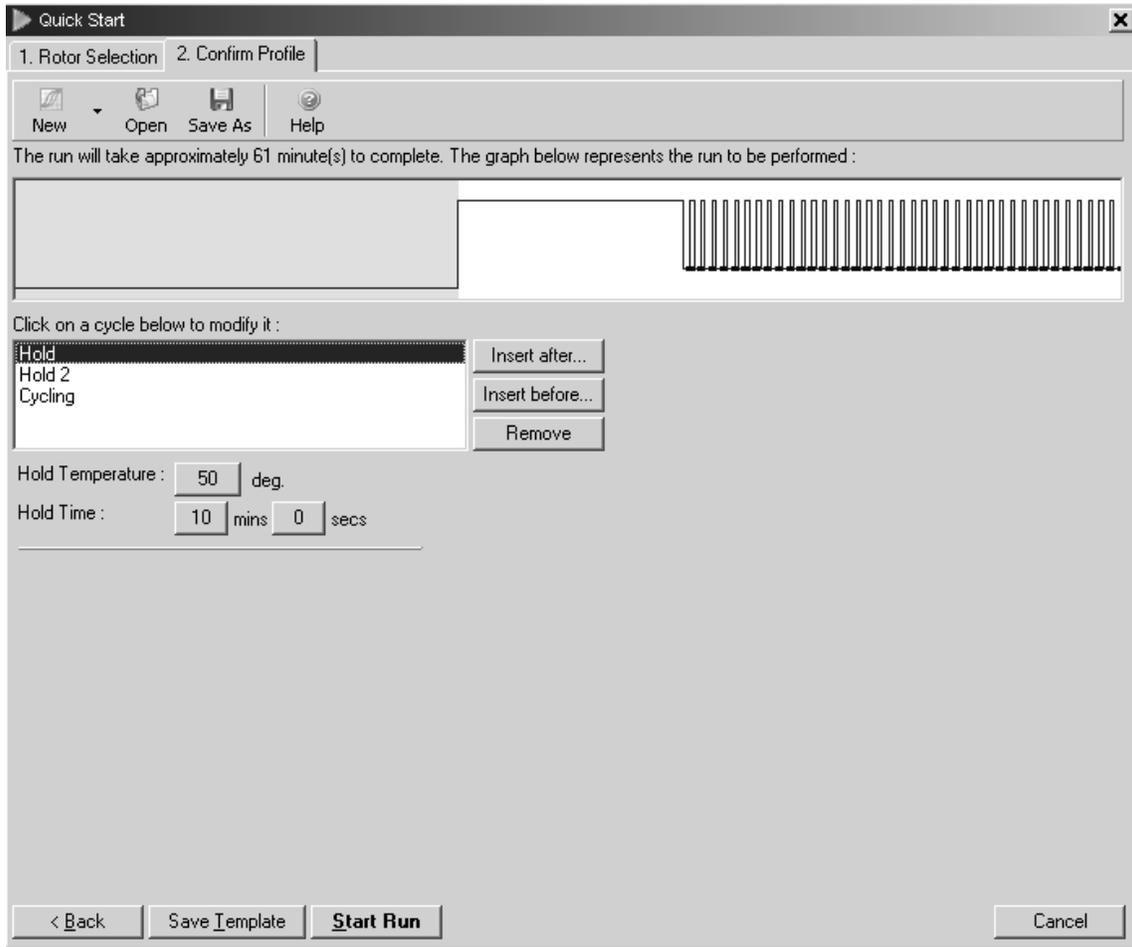

Figure 3. Reverse transcription. Before starting PCR, reverse transcription must be carried out. Reactions are incubated at 50°C for 10 min.
5. Program the Rotor-Gene cycler according to the program outlined in Table 4 (page 18) and Figures 3–5 (pages 19–21).